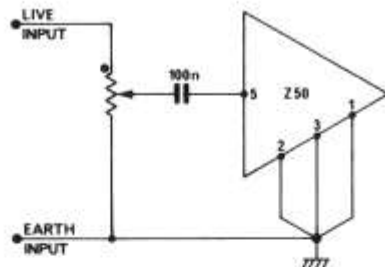

Fig 4.15.1
4.15.1 *Simple Volume Control* A volume control can be added as shown in fig. 4.15.1. 100K is a suitable value for most purposes but other values such as 47K, 22K, 10K or 5K can be used. It should be a logarithmic type but a semi-log or linear type can also be used.
4.15.2 *Simple Stereo Volume and Balance Control* This combines two volume controls of fig. 4.15.1 with a balance control and the values can be the same as those in fig. 4.15.1. The volume control should be a dual log type
Output is from points B and earth should be fed to the volume control circuit of fig. 4.15.1, 4.15.2 or 4.15.3, using a value of 100K for the volume control.